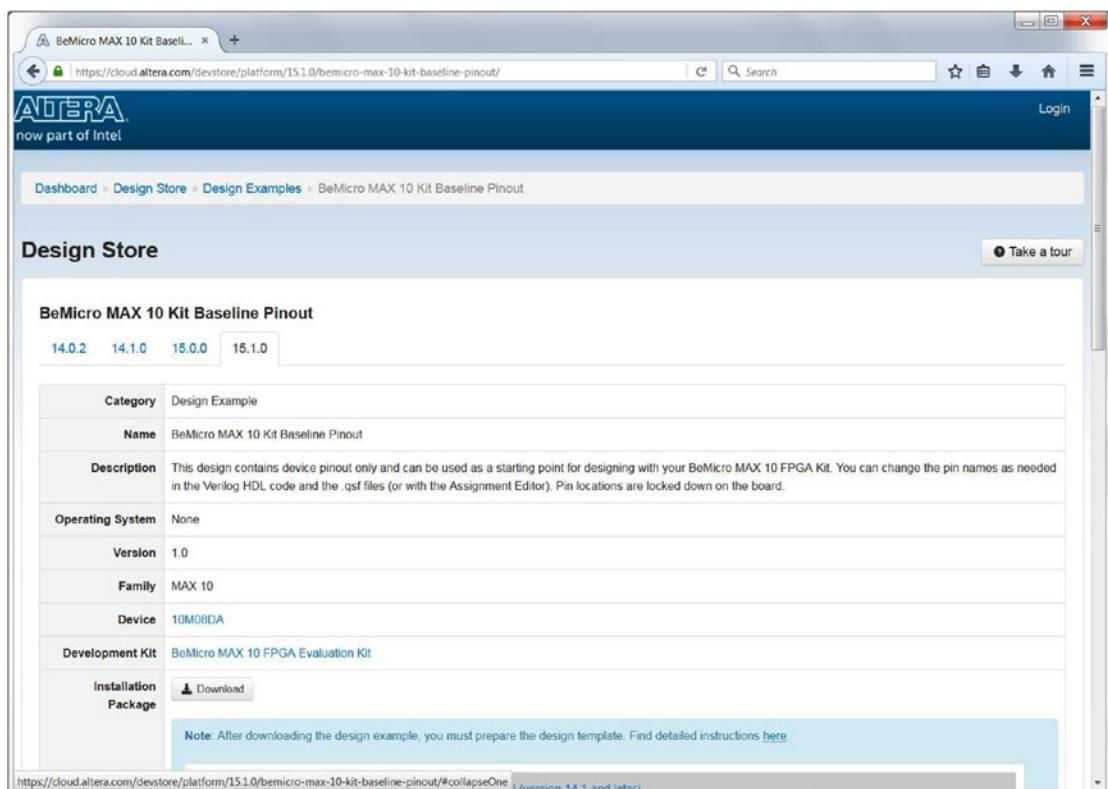

Figure 4-10. Altera Design Store—BeMicro MAX 10 Kit Baseline Pinout
11. Click **Download** on the BeMicro MAX 10 Kit Baseline Pinout page (Figure 4-10). The file name is `BeMicro_MAX10_top.par`. Go to the next step.